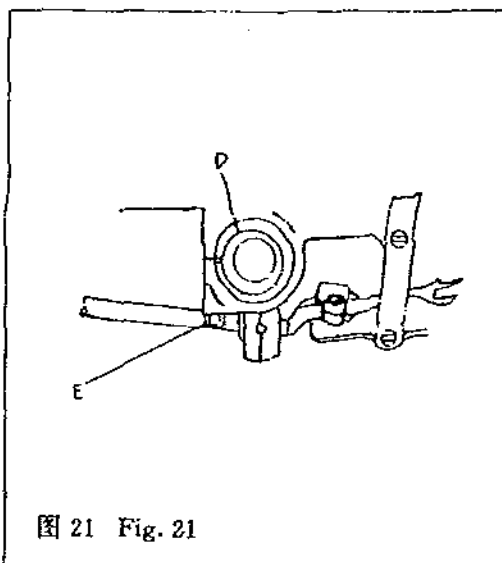

图 21 Fig. 21
①旋松紧固螺栓“E”，左右移动偏心支承套“D”，达到上述要求时，旋紧紧固螺栓“E”(图 21)。
①Loosen set bolt "E", move the eccentric supporting sleeve "D" rightward and leftward, and tighten the set bolt "E" (Fig. 21).
- ① 旋松紧固螺栓“E”(图 21), 周向转动偏心支承套“D”, 使钩线叉在右端时达到上述要求。
- ① Loosen set screw “E” (Fig. 21) and turn the eccentric supporting sleeve “D” so that when the thread hook is at the right end may comply with the above-said requirements.